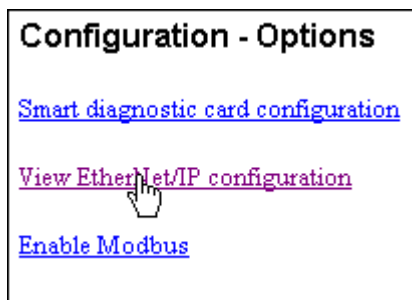

FIG. 71: OPTIONS PAGE/SELECTING VIEW ETHERNET/IP CONFIGURATION
- Step 3. Click on Options. The Options page appears. (See Fig. 71)